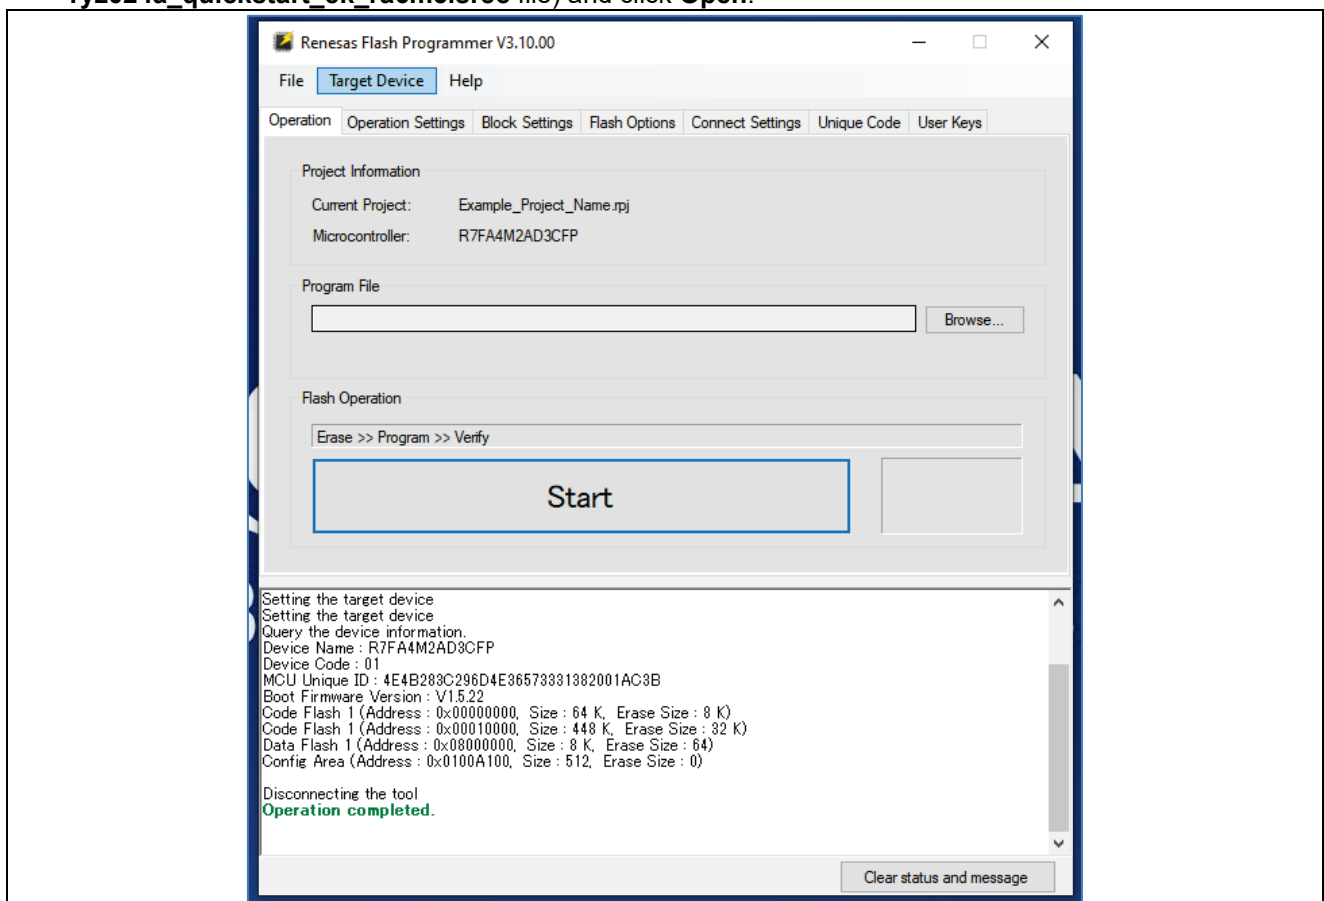

Figure 3. Main Window of Renesas Flash Programmer After Creating a New Project
5. Verify that the message **Operation completed** is printed in the main window after clicking **Connect**. Under Program file, click **Browse** to choose the program file that will be flashed onto the board (Figure 3). Using the file explorer window, navigate to the example project's **Hex File** (located in **r21qs0007euxxx-ryz024a-ek-ra6m5.zip > ryz024a_quickstart_ek_ra6m5/ryz024a_quickstart_ek_ra6m5.srec** file) and click **Open**.